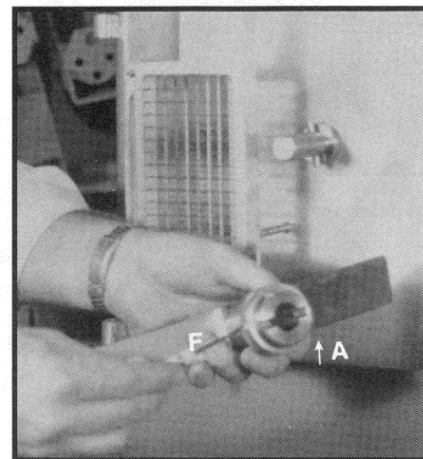
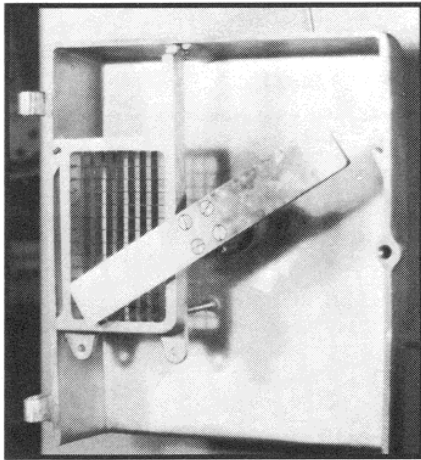

FIGURE 4
FIGURE 5
REFERENCE FIGURE 1 (Page 4) AND FIGURE 4 (Page 2).
CAUTION: Knife is sharp. Remove F — Knife Assy. from E — Disc by loosening the Nylon Lock Screw and removing the adjustment ring. [Figure 4] [Note: Threads are left hand.] Reinstall adjustment ring onto Knife assy. and SNUG nylon lock screw when proper adjustment is made. [See instructions for knife adjustment later in this brochure.]
1. Loosen nylon lock screw. [Figure 4(A)]
3. Snug nylon lock screw (A).
4. Insert Knife Assy. (F) onto drive shaft of housing rear as shown. [Figure 5]